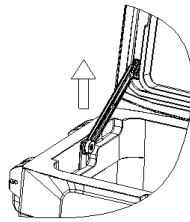

Fig. 1
3.2 When closing the cover, you need to lift the door limit strip (Fig. 1) to make the cover close smoothly, and the LED light is off.